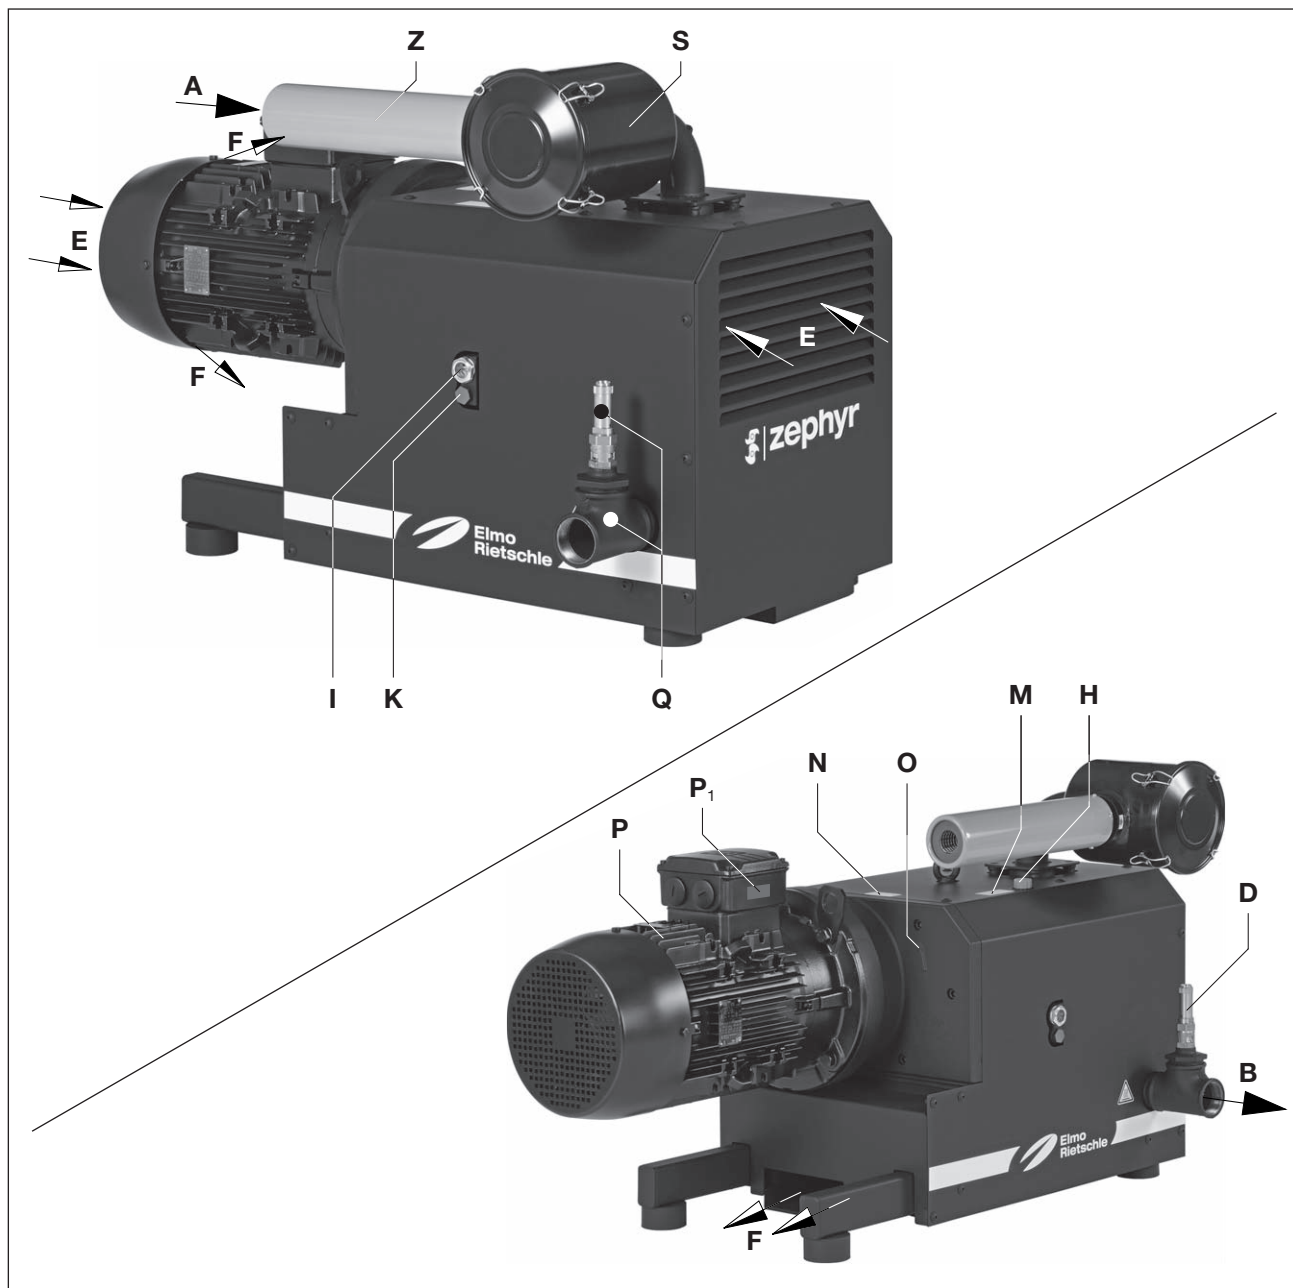

Fig. 2 Compressor C-DLR 301
The C-DLR 301 is encapsulated by an insulating hood. In order to dissipate compression heat, the cooling air is sucked through between the machine and the hood using drum fan that sucks in the fresh cooling air (Fig. 2/E) and discharges the heated air out of the cooling air outlet (Fig. 2/F).
To protect against overload a safety valve (Fig. 2/D) is fitted as standard.
This contact free running claw compressor C-DLR 301 is suitable for creating excess pressure between 0 and the maximum limit (in bars) given on the data plate Fig. 2/N). Constant operation is permissible.
The oil filling point (Fig. 2/H), oil sight glass (Fig. 2/I) and the oil outlets (Fig. 2/K) must be easily accessible. The cooling air inlets (Fig. 2/E) and the cooling air outlets (Fig. 2/F) must be at least 30 cm away from adjacent walls. Cooling air coming out must not be sucked in again. For maintenance work there must be a minimum of 40 cm in front of the inlet filter (Fig. 2/S) and the inlet silencer (Fig. 2/Z).
- a) Pressure connection at (Fig. 2/B).
As a protection against overload a safety valve (Fig. 2/D) is installed as standard.
- a) Fill the lubricating oil (for suitable types see "Maintenance") for the gear wheels and oil filling point (Fig. 2/H) up to the middle of the sight glasses (Fig. 2/I).
- a) The motor's electrical data is given on the data plate (Fig. 2/N) or on the motor data plate (Fig. 2/P₁). The motors comply with DIN EN 60034 and are in protection class IP55 and insulation class F. The appropriate connection diagram is located in the motor's terminal box (not for the plug connection version). The motor data must be compared with the data of the existing mains network (current type, voltage, network frequency, permitted current value).
When the machine is at operating temperature the surface temperatures on the components (Fig. 2/ Q) may go above 70°C. You must avoid touching the hot surfaces (marked with warning plates).
- ▷ The intended direction of rotation of the drive shaft is shown by the rotary direction arrow (Fig. 2/O).